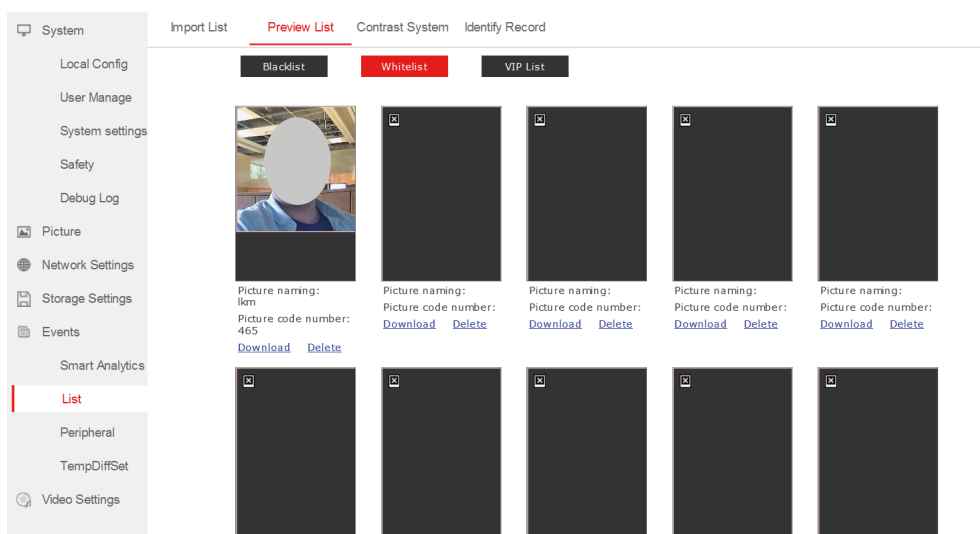

Fig.14
- **Preview List** – tab allowing you to preview a whitelist of people saved in the system who are allowed to enter the facility and remove them from the list (Fig.14)